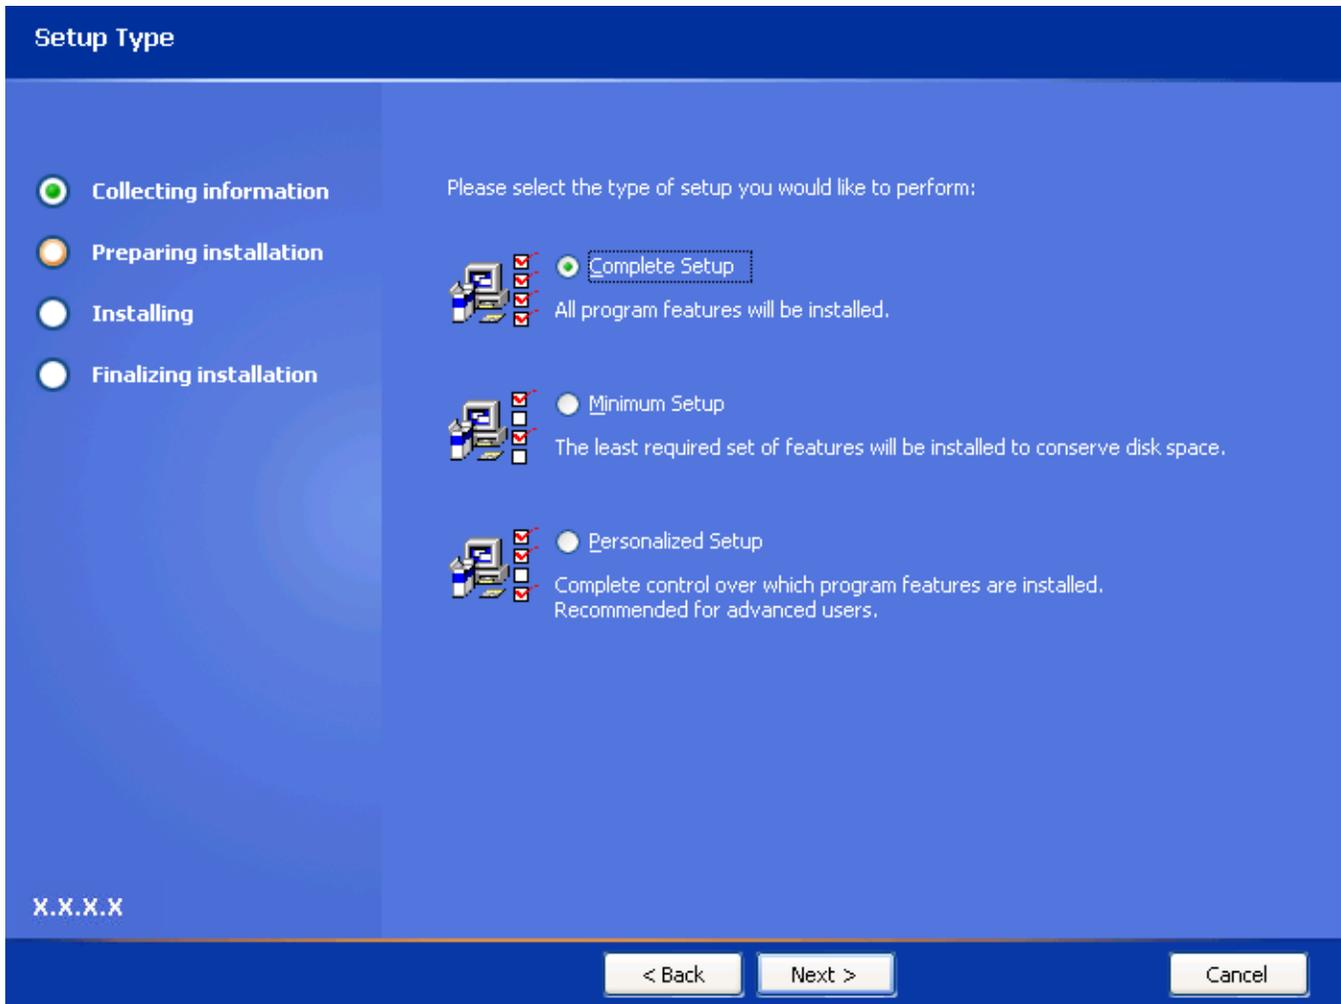

Figure 24 - Setup Type Screen
7. Click on the **Next** button. The **Setup Type** screen (Figure 24) appears.